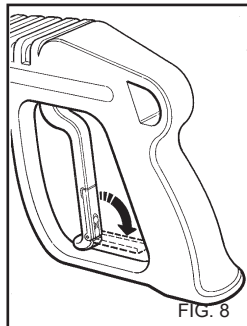

FIG. 8
- When the water cleaner is not used, close the safety device on the handle.(fig. 8).